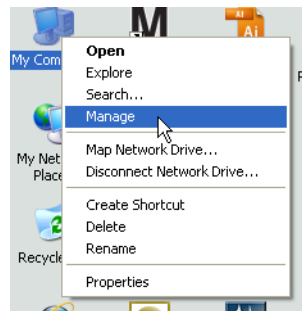

FIG. 53
- a. Right click the My Computer icon on the desktop; then click Manage (FIG. 53).